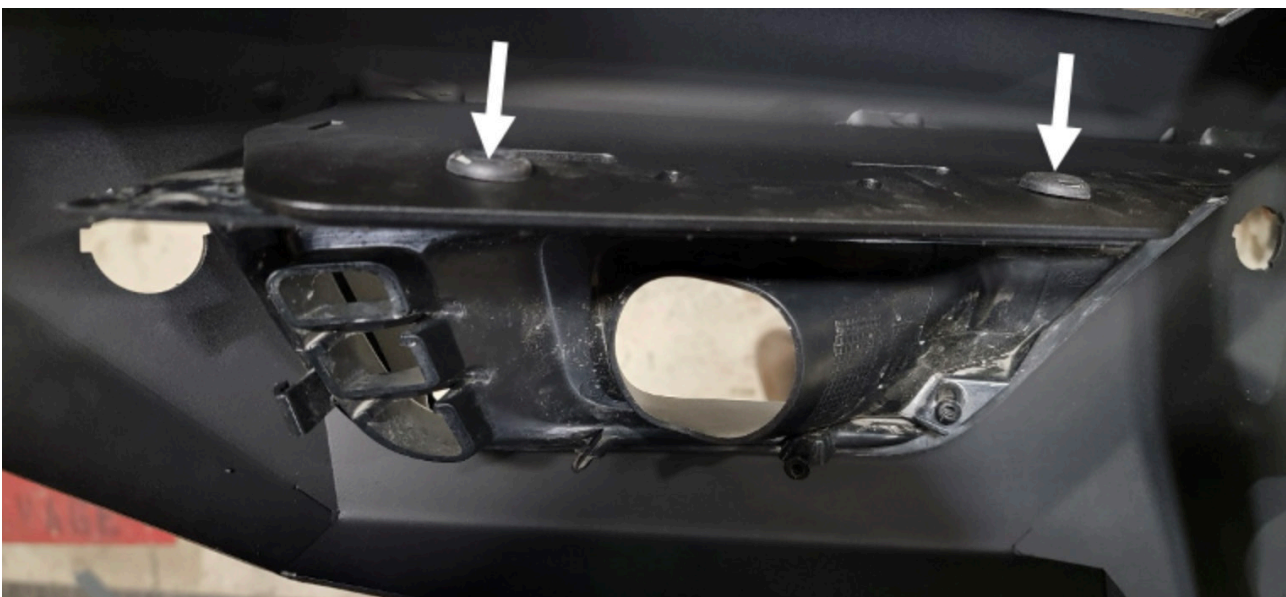

Figure 30
28. Place the OE fog light housings into the bumper light boxes and use 2x plastic rivets removed during Step 15 to hold the housings in place. Figure 30.